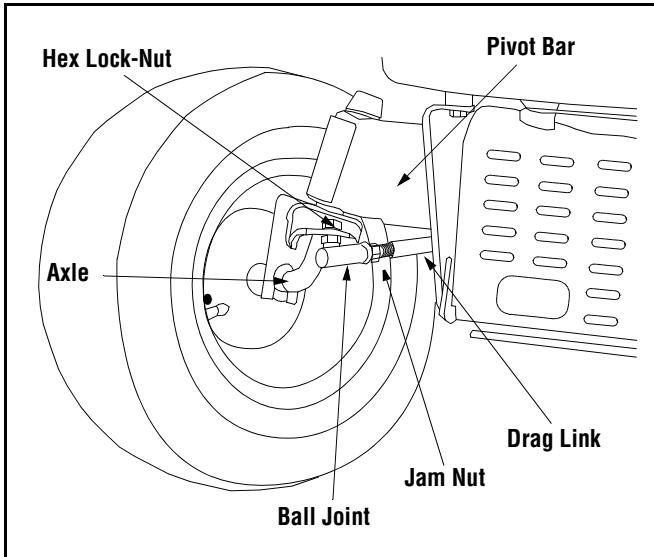

Figure 16
- Loosen the jam nut found on the drag link at the rear of the ball joint. See Figure 16.
- Remove the hex lock-nut on the top of ball joint. See Figure 16.